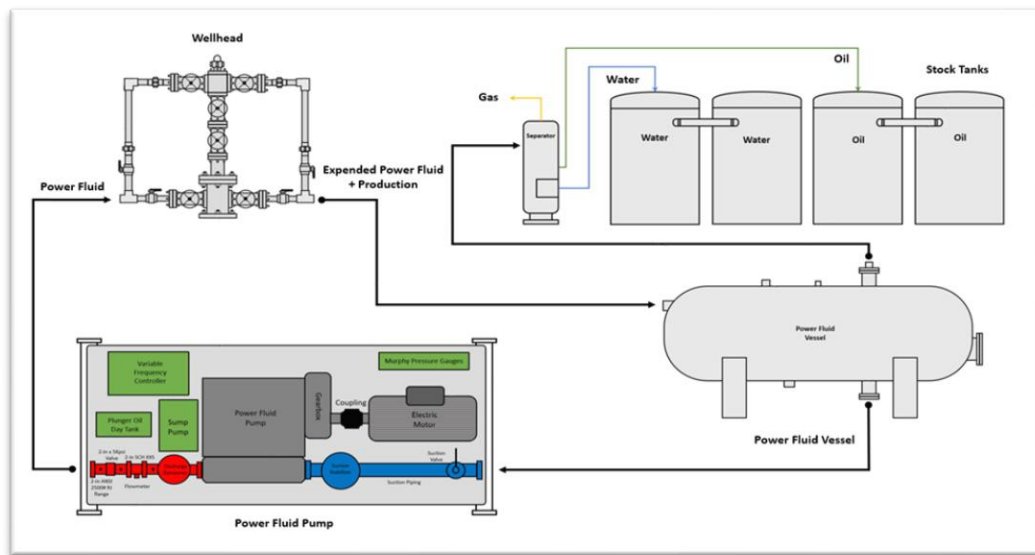

Figure 9: typical jet lift surface equipment configuration in the South Texas region
On a typical jet lift system, as the ones that are used in the South Texas Region in the United States of America, the operation is conducted as follow (refer to figure 9):
- The commingled fluid flows from the wellhead back to the power fluid vessel, where it will remain for a minimum period of time (residence time) to allow produced sand to fall onto the vessel’s bottom, and for the gas to move up to the vessel’s top. The required power fluid rate will again get flowed towards the power fluid pump, and the produced fluids are transferred to the production facilities. Please see figure 9.